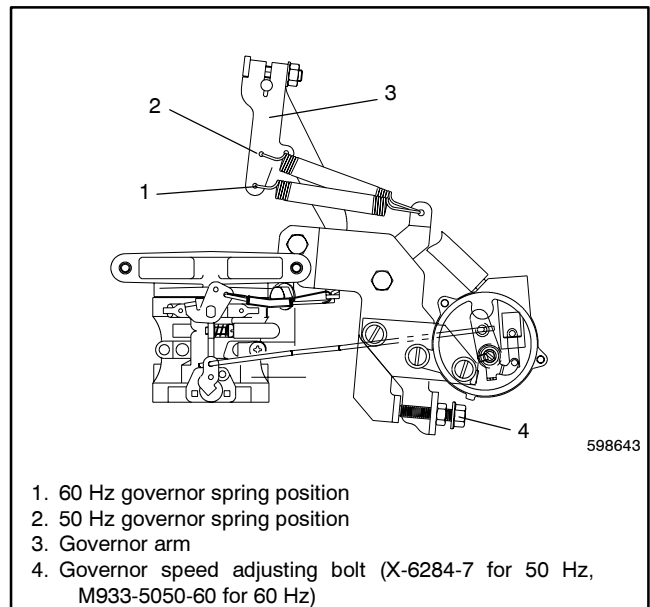

Figure 4-3 Governor 60 Hz to 50 Hz Conversion
1. Change the spring to the 50 Hz position. See Figure 4-3.